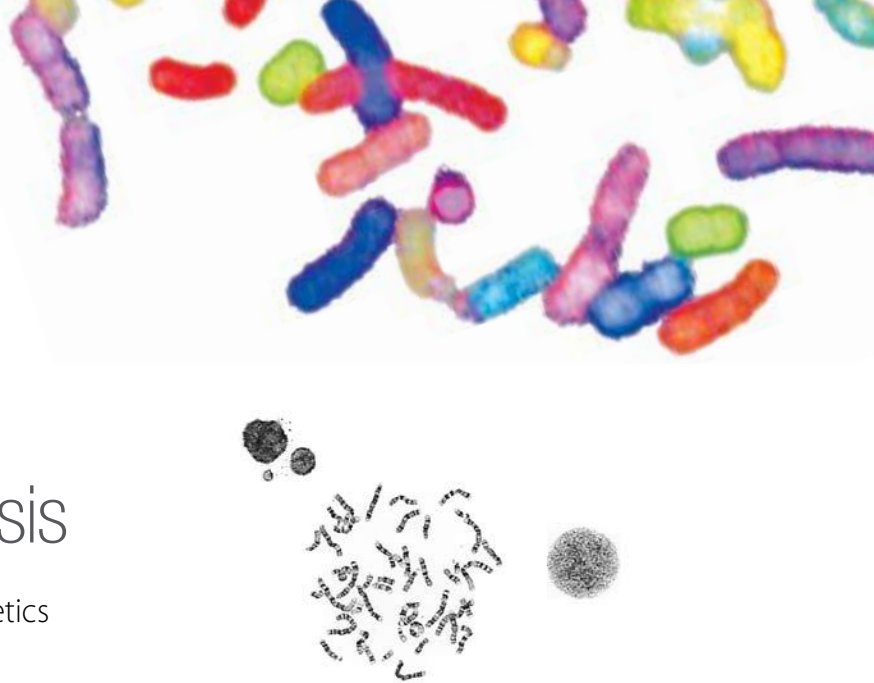

Figure 1—Chromosome spread from bone marrow cells. Cells were cultured in MarrowMAX™ Medium for 24 hours, and G-banding analysis was performed.
- High mitotic index and superior chromosomal morphology (Figure 1)